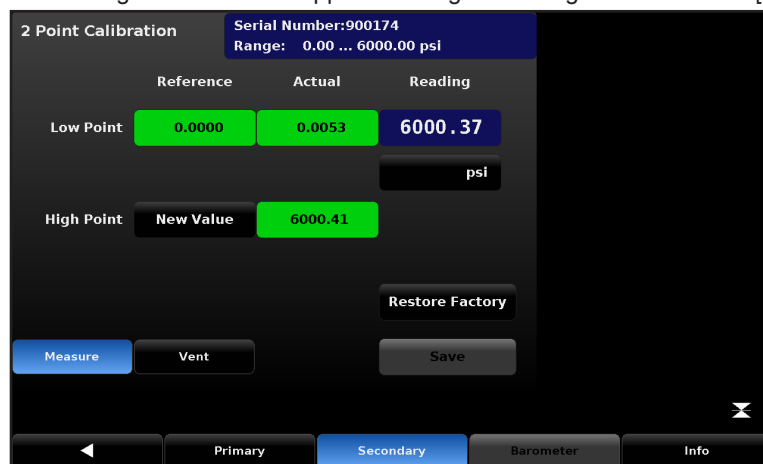

Figure 6.4.2.5.2-6 – High Point 'Actual'
6. Press the [New Value] button and enter the "true pressure". This value is obtained from the pressure measured by the calibration standard. After the value has been accepted by pressing the check mark [✓] on the numeric key pad, the value will appear with a green background where the [New Value] button was. This completes the 'High Point' calibration. See Figure 6.4.2.5.2-6